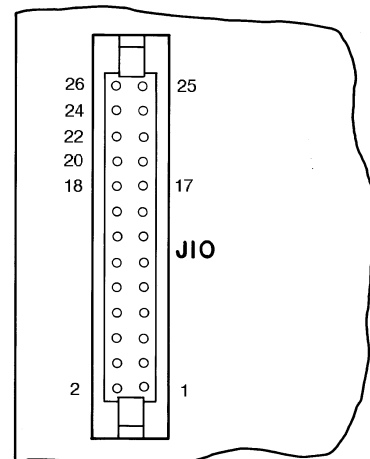

Fig. 51 — Display Board Pin Terminal Connector (J10)
5. Place the other lead on terminals shown in table below, and check voltage at pin terminals on pin terminal connector J10 (see Fig. 51 for pin terminal connector J10 details):